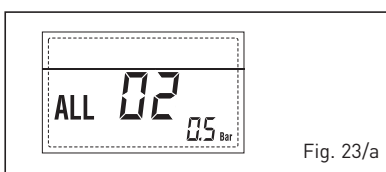

Fig. 23/a
- HIGH WATER PRESSURE ERRORS ALARM 03 (fig. 23/b)